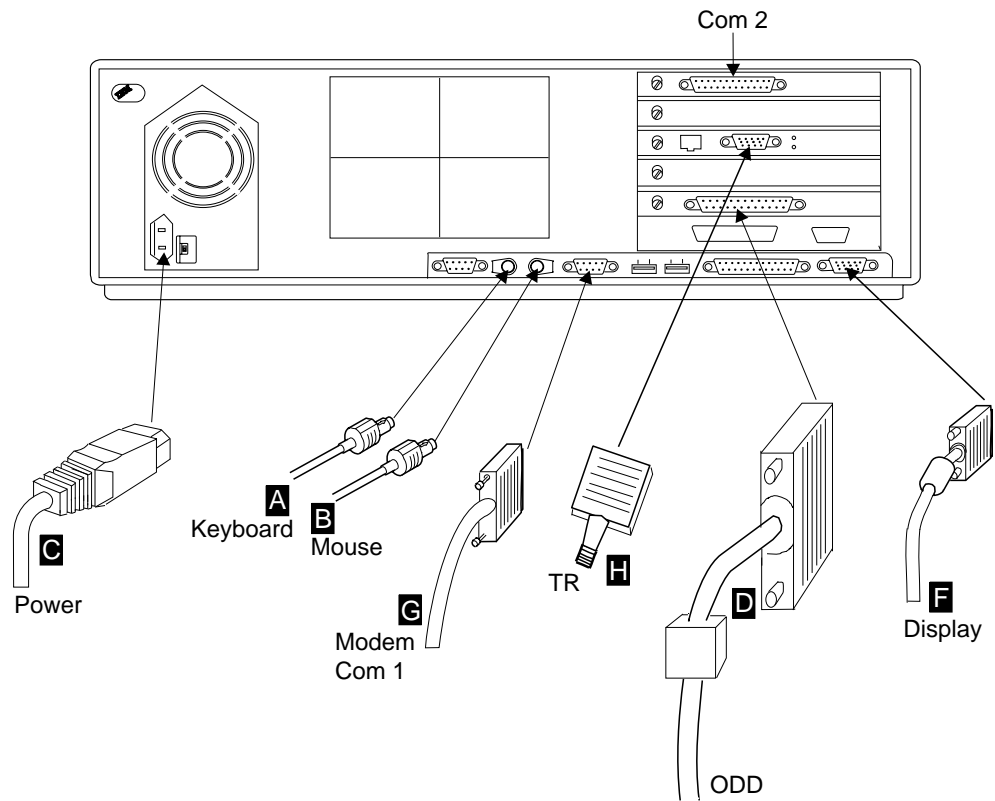

Figure 1-15. Cable Locations
19. ____ **Connect** the cables to the 7585 as follows (see Figure 1-15 on page 1-17):